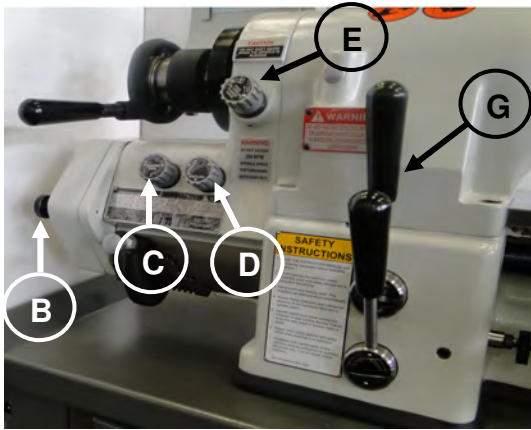
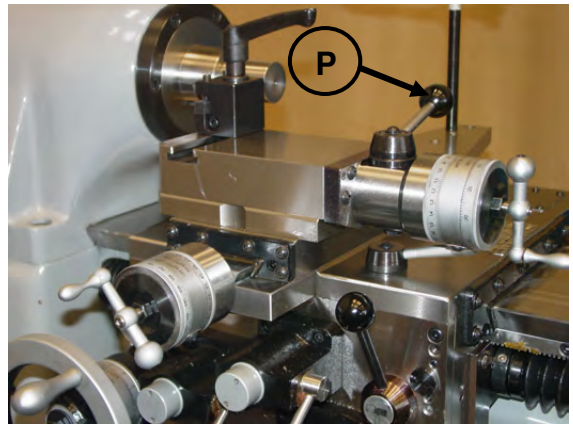
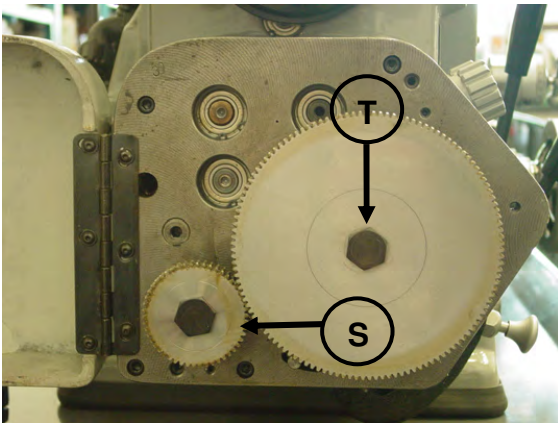

Figure 52-Headstock and Gearbox
Figure 53-Carriage and Compound Slide
Figure 54-Thread Gearbox
3. Loosen knob "B" (Figure 52), open gearbox door and remove 127 tooth gear "T" (Figure 54).
12. Close gearbox door, tighten knob "B" (Figure 52), and turn selector knob "C" (Figure 52) to position specified on chart.
13. Turn Inch/Metric knob "D" (Figure 52) to "Metric".
14. Turn Feed/Thread knob "E" (Figure 52) to "Thread".
15. Follow same procedures for setting carriage stop, lead screw nut and compound slide as when cutting threads from the gearbox. Use of carriage control lever "G" (Figure 52), and quick-acting handle "P" (Figure 53), will also be the same as when cutting threads from the gearbox.
NOTE : (a) 50 tooth gear "S" (Figure 54), and 127 tooth gear "T" (Figure 54) must be remounted without bracket to obtain metric thread pitches through gearbox.